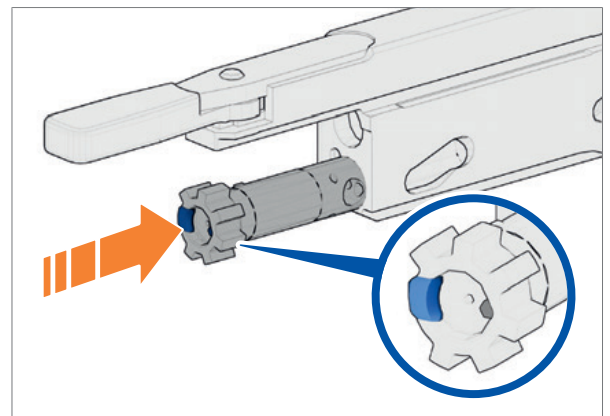

Fig. 120: Insert bolt head
1. Insert bolt head into the bolt head carrier with the extractor to the right (*Fig. 120*).